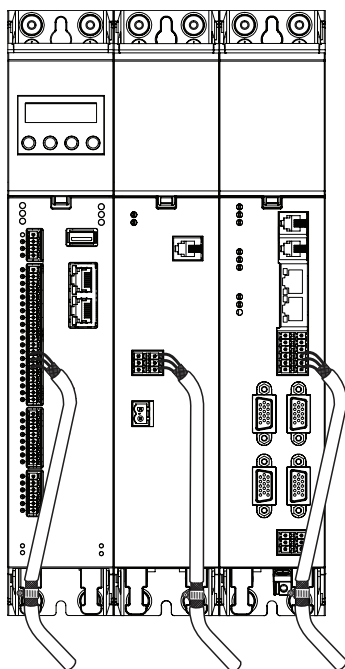

Fig. 3.1 Example shield connection control connections
- Do not strip the cable shields too soon, and use the shield lugs on the respective plug-in connectors for establishing contact at the components (see Fig. 3.1). Lay the other part of the cable shield across wide areas on both the PE rail (main earth) or the panel.